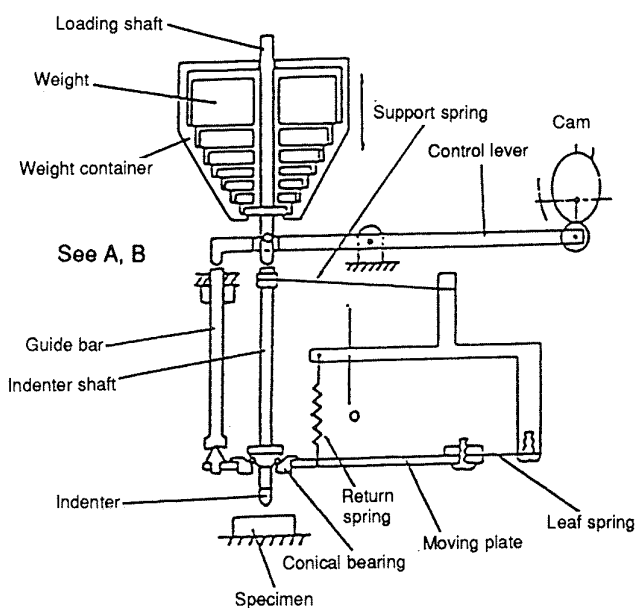

Fig. 7 Loading mechanism of microhardness tester (model MVK-E3)
- A. The direct loading method minimizes the reduction in measured hardness caused by vibration. (Fig. 7)
- B. No lateral force is applied to the indenter shaft. (Fig. 7)